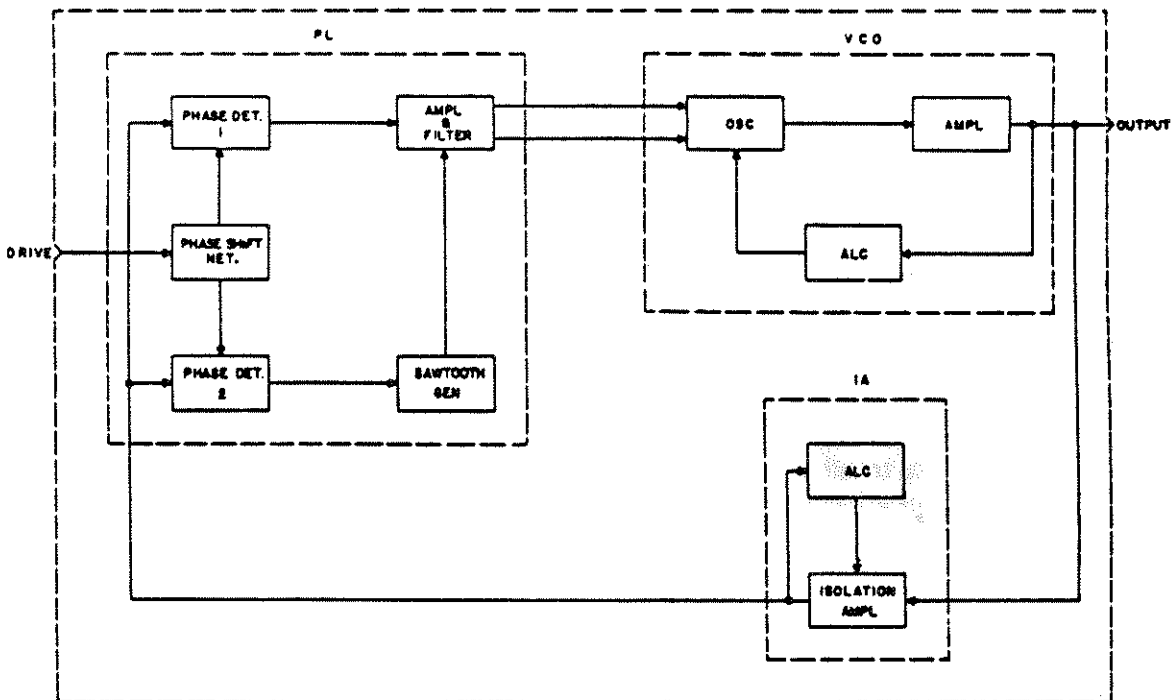
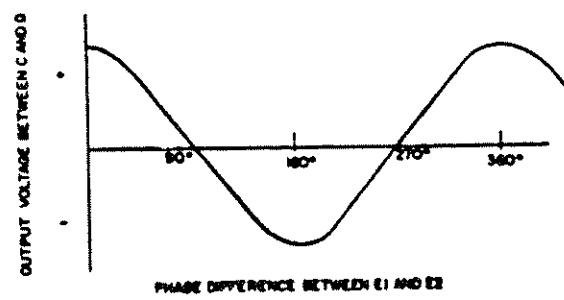
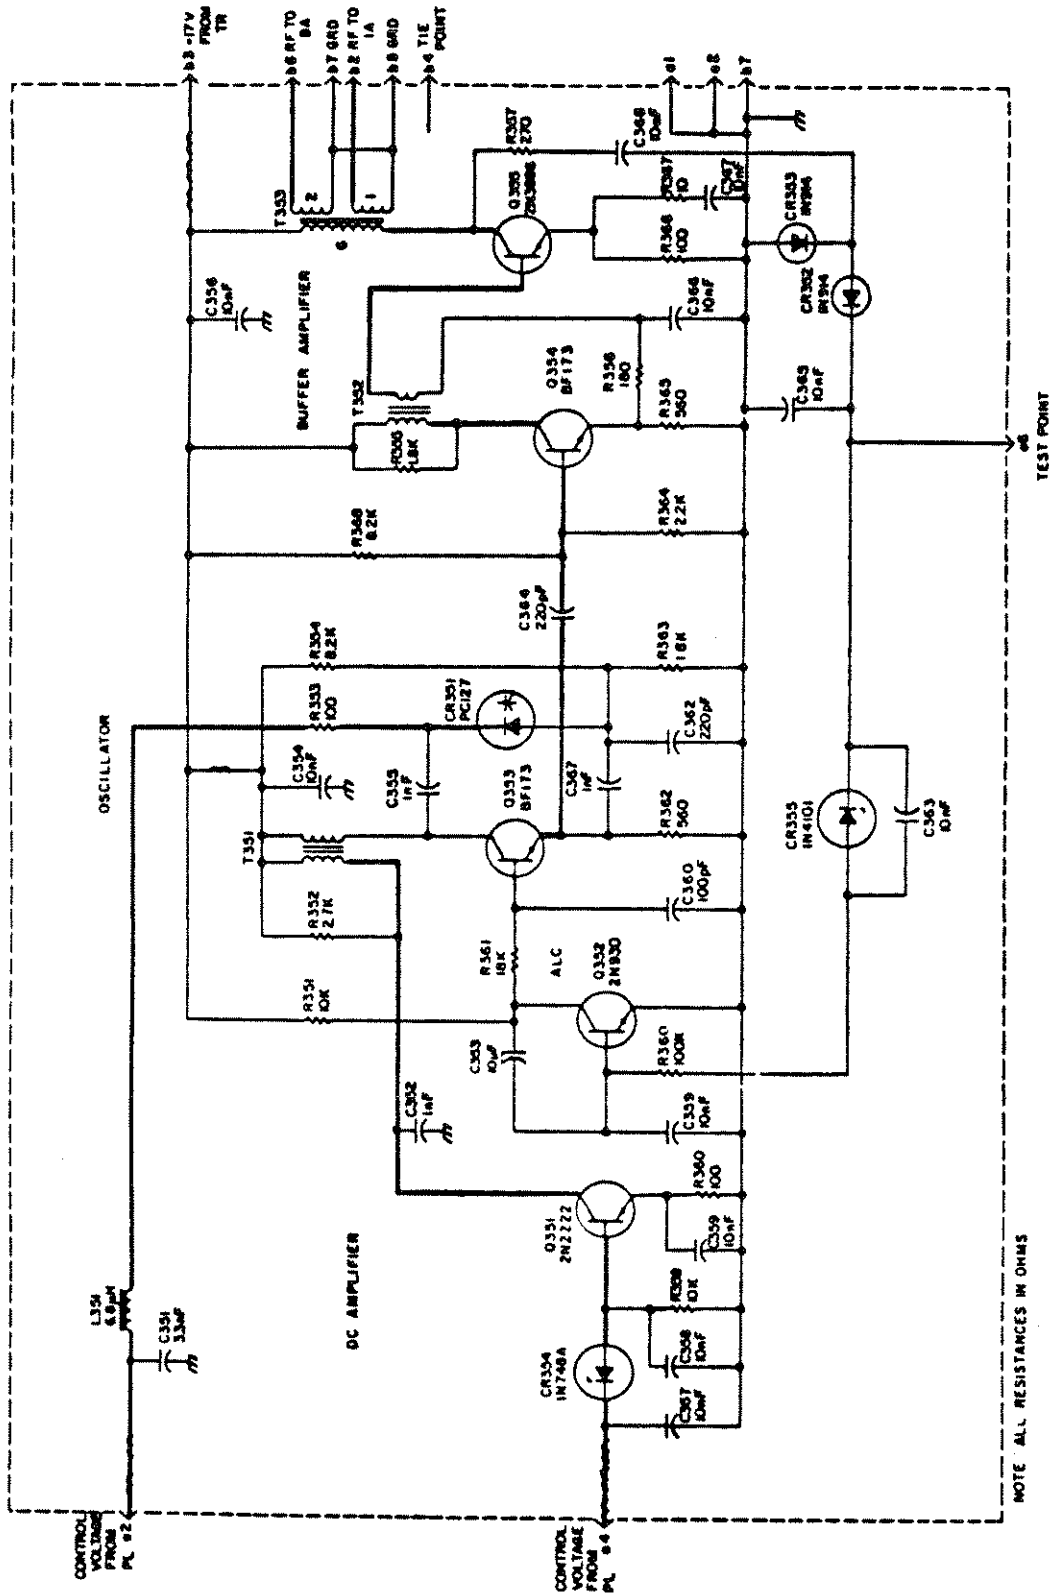

Figure 3-2. Phase Locking System, Block Diagram
Figure 3-9. Phase Detector Output Voltage
Figure 3-12. Voltage Controlled Oscillator Unit A350, Schematic Diagram
(2) Detailed Description. (Fig. 3-2) – The RF signal from the transceiver is fed into a 90° phase shifting network which supplies two voltages 90° out of phase with the phase detectors. The other RF input signal to the two balanced phase detectors comes from the IA unit which amplifies the output signal of the VCO. If the two applied RF signals are of the same frequency the resultant dc voltage varies as the cosine of the phase difference (Fig. 3-9) If the RF signals are of different frequencies the phase detectors produce an ac voltage whose frequency is proportional to the difference between the signals. Phase detector 1 is connected to an amplifier whose dual output signal controls the VCO frequency. The amplifier includes RC loop filter networks. This filter limits amplification over the speech frequency range, yet its phase shift is too small to cause instability in the system. The two control inputs to the VCO vary the oscillator circuit capacitance and self-inductance. The reactance of a capacitive diode is varied by one of the control voltages. The reactance of a ferrite coil is varied by a direct current from an amplifier stage in the VCO circuit which is driven by the second control voltage. By varying both L and C in the oscillator circuit the range of 26 to 76 MHz can be covered without bandswitching. When transmission starts a stabilized voltage is first supplied. A sawtooth generator in the PL current applies a voltage to the VCO input which sweeps the VCO frequency through its entire frequency range of 26 to 76 MHz. When the system is locked to the radio set frequency the dc output
Thus the voltage between C and D is zero when the phase difference between E1 and E2 is 90°, positive when the angle is less than 90° and negative when it is greater than 90°. The output voltage variation with respect to the phase difference is shown in Figure 3-9.
(f) **VCO Unit.** (Fig. 3-12) – This unit forms part of the phase locking system, as shown in Figure 3-2. The unit contains a voltage-controlled oscillator, a buffer amplifier, an ALC circuit and a dc amplifier for a current-controlled inductor. The circuit is incorporated in a three module plug-in unit.